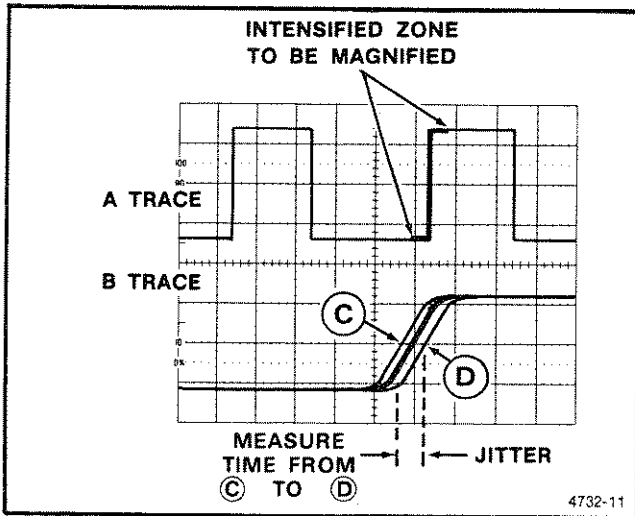

Figure 2-20. Pulse jitter.
2. Referring to Figure 2-20, measure the difference between Point C and Point D in divisions and calculate the pulse jitter time using the following formula: